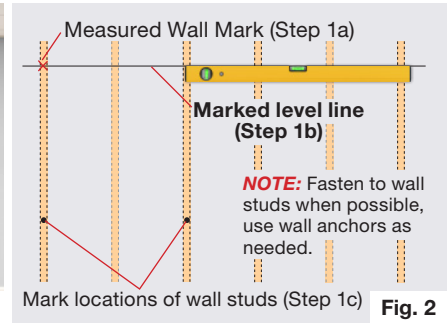

Fig. 2
- Using a level, mark the wall at the marked height in step 1a, along the full width of the WhiteWalls® (Fig. 2)
- Mark locations of wall studs along the full width of the intended WhiteWalls® mounting area. (Fig. 2)